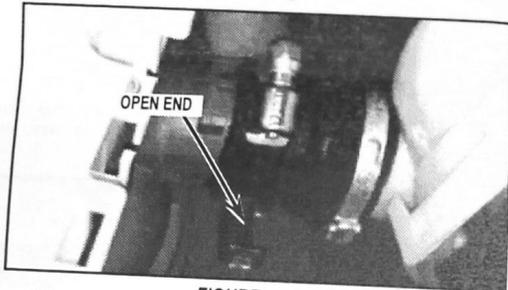

FIGURE 6
- b. Unscrew the clamp and insert the open end from the bottom of the hose. See Figure 6.